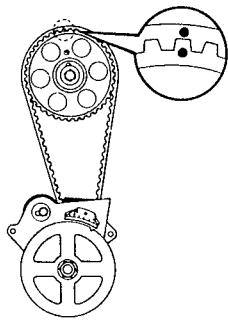

Fig. 1
4. Align the points marked during removal, and install the timing belt (see Fig. 1).